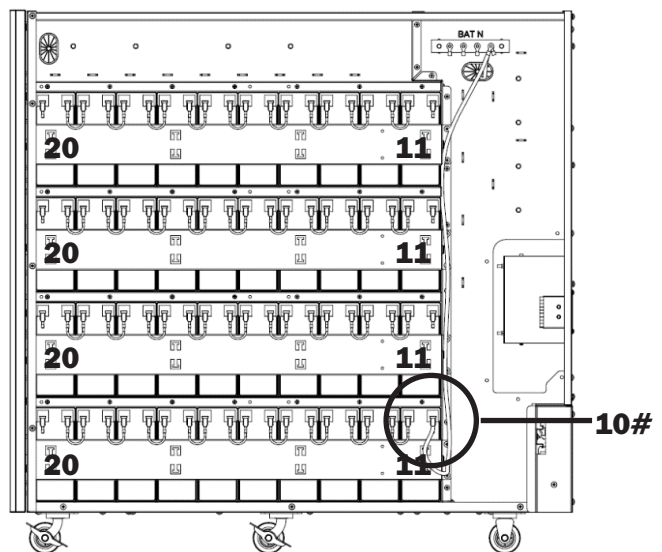

Figure 5-15B
20. Connect group 1 battery 11+ to N battery bus bar (BAT N) (Figure 5-15B).